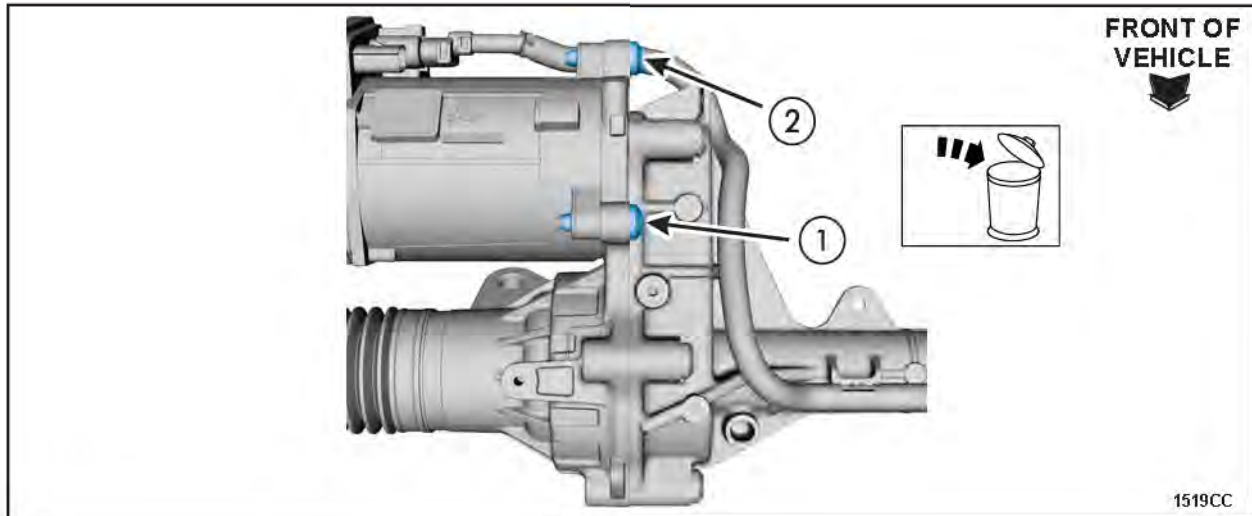

FIGURE 8
1. Working from the front of the subframe, first replace steering gear motor bolt one. Then replace bolt two. See Figures 8 and 9.